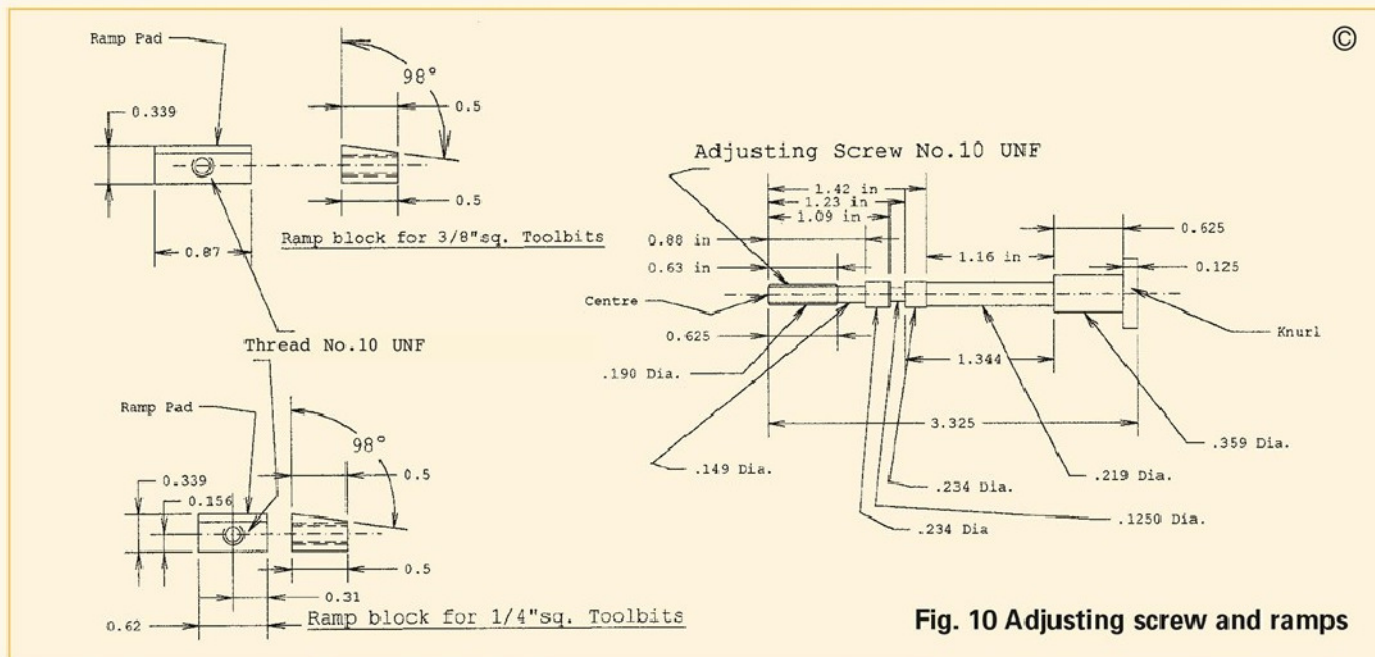

Fig. 10 Adjusting screw and ramps
Dimensional tolerances are not shown on the drawings because fits and clearances are not critical to function provided they are appropriate. A modeller can decide in the workshop how close he wants to work to nominal dimensions. One dimension that should be treated with care is the 60 degree angle of the reference faces in item 9 which define the screwcutting setting. It should also be borne in mind that the range of tool centre height adjustment is limited by the ramp dimensions (on **Fig 2** and **Fig 10**) and this limits the tolerance accumulation available for a convenient range of centre height
Probably the most challenging component is the tool tip elevating screw, (Fig10) which requires careful planning to produce the several diameters, the screwed portion and the axial locating groove on this rather slender component
Ensure that the ramp blocks (Fig 10) are a comfortable slide fit and are well bedded over their whole width in the ramp pockets in the base of the toolblocks. Assemble the elevating screw (Fig 10) into the toolblocks checking that the axial locating groove aligns satisfactorily with the $\frac{1}{16}$ in. driving pin holes. Fit the pins, one each side. Make sure the adjusting screw rotates freely with a small clearance under the head. Lock the pins by centre punching around the hole or by some other appropriate method such as Loctite.